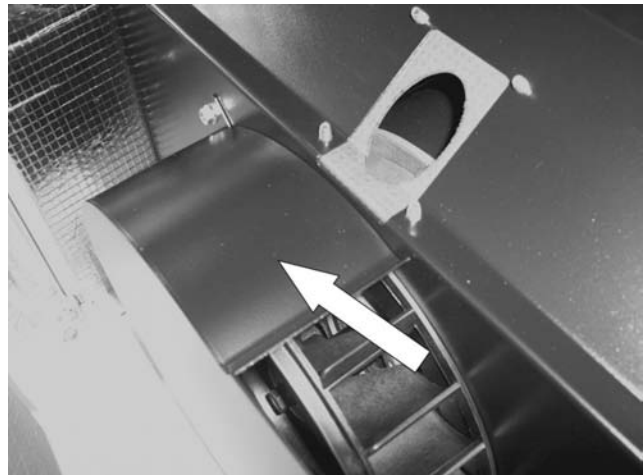

Figure 30.
7. Remove Fan Housing Cover: Using a 10mm socket remove four bolts from the fan housing cover. Remove the fan housing cover (if equipped). See Figure 30.